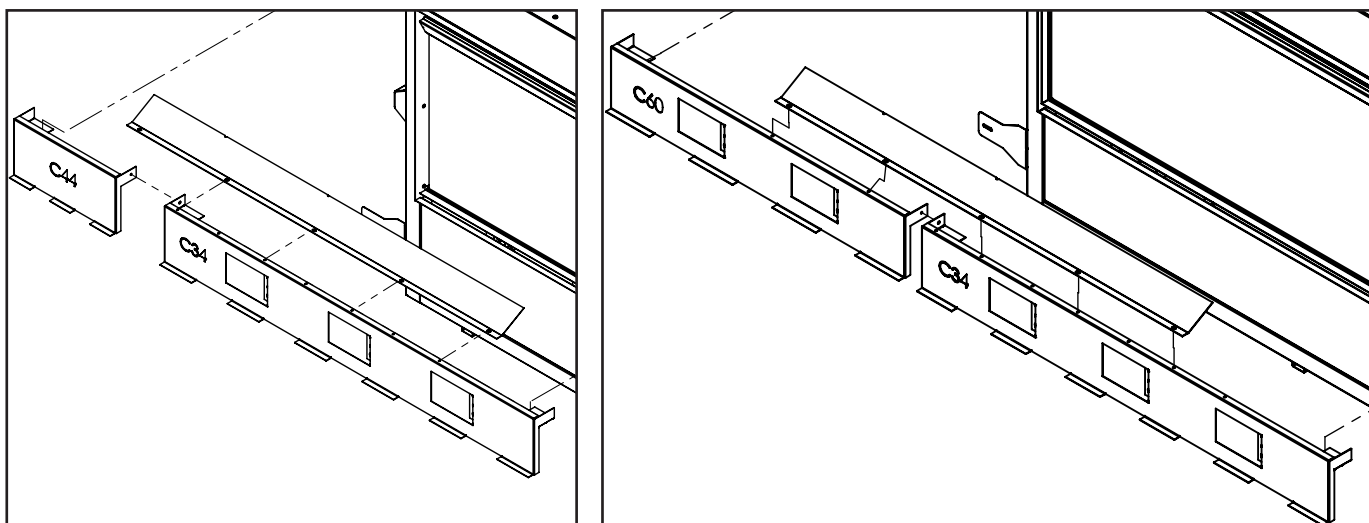
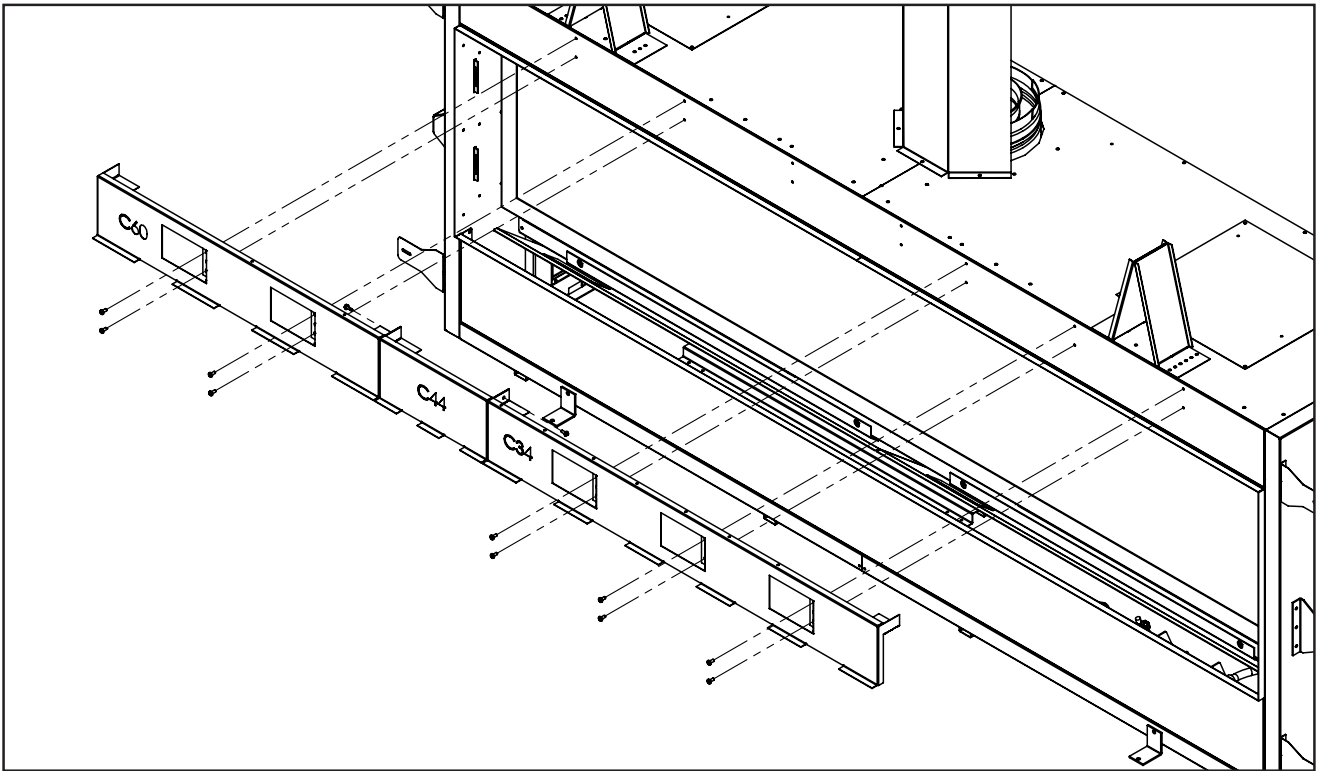

Figure 26. Combustible Panels C44 Left, C60 Right
Figure 27. Combustible Panel C72
Step 5: If installing a C44 or C60, attach your extension piece to the C34 main panel (Figure 26). If installing a C72, attach all extension pieces together main panel. (Figure 27)